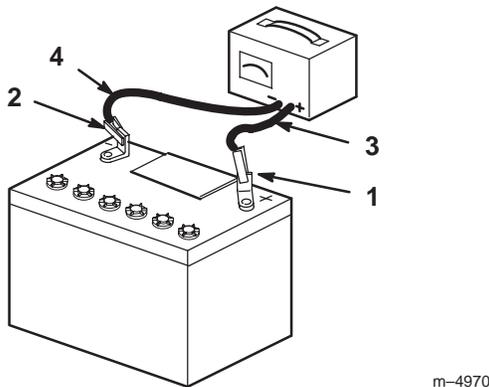

Figure 60
- When the battery is fully charged, unplug the charger from the electrical outlet, then disconnect the charger leads from the battery posts (Fig. 60).